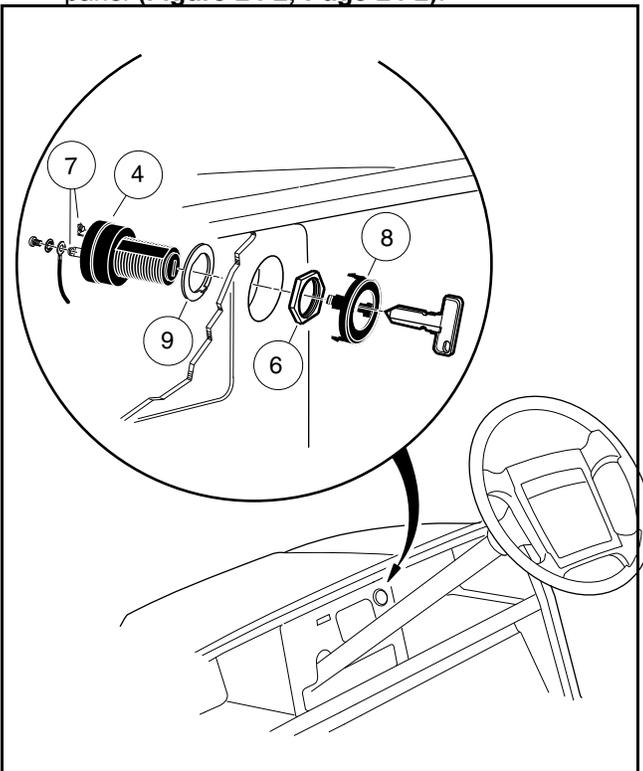

Figure 24-2 Key Switch
5. From the back of the dash panel, push down on the retaining tabs surrounding the key switch (4) and remove the key switch cap (8). Hold the key switch and remove the switch retaining nut (6) from the outside of the dash panel (**Figure 24-2, Page 24-2**).
1. Position the key switch and flat washer (9) in the center dash, then install and tighten the switch retaining nut (6) to 40 in-lb (4.5 N·m). Install key switch cap (8) in center dash (**Figure 24-2, Page 24-2**).
3. Install center dash by reversing removal procedure. Make sure key switch terminals (7) do not touch frame and that the center dash panel is properly seated and snapped into place (**Figure 24-2, Page 24-2**).